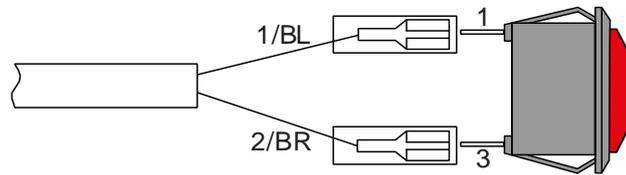

Figure 26: Indicator light connection
- ▶ Mount the **PALFINGER** indicator light in the driver's cab. This indicates when the tail lift is not in the driving position (part no. 2067902, design of the hole as for the control unit, connection in accordance with the wiring diagram, see also Figure 26).